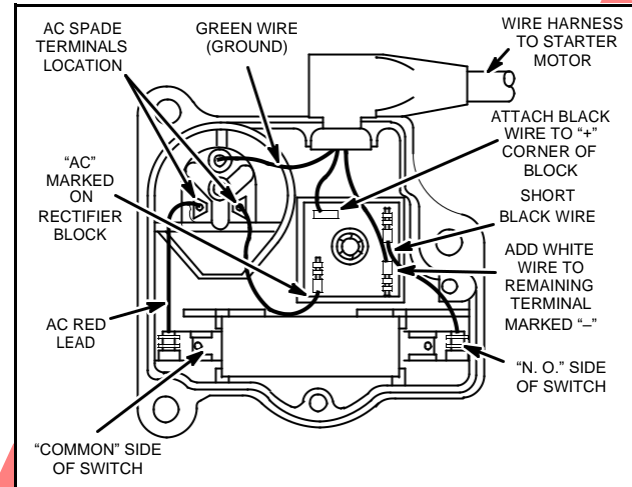

Fig. 709 – WIRING DIAGRAM
1. Connect wires as shown in Fig. 709.